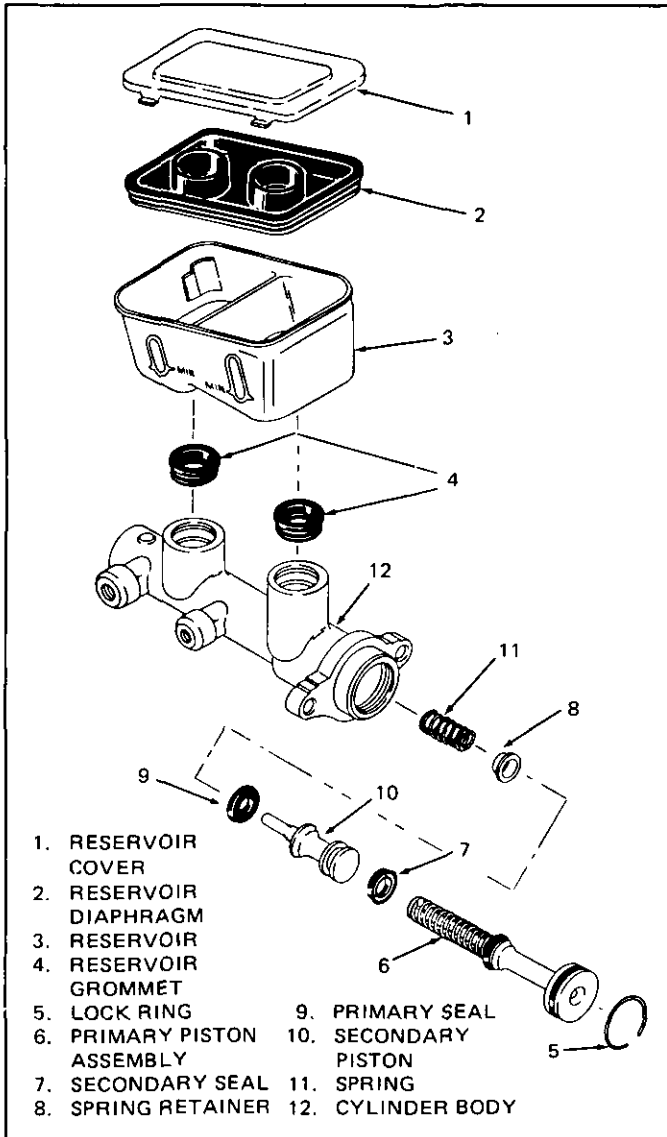

Figure 3 Master Cylinder Assembly
- Seals (7 and 9) onto secondary piston (10)
- Position as shown in Figure 3.
3. Spring (11), spring retainer (8) and secondary piston assembly (7, 9 and 10) into cylinder bore
4. Lubricate primary piston (6) seals with clean brake fluid.
- Primary piston assembly (6) into cylinder bore
- Depress primary piston (6) and install lock ring (5).
5. Diaphragm (2) into reservoir cover (1) and install on reservoir (3)